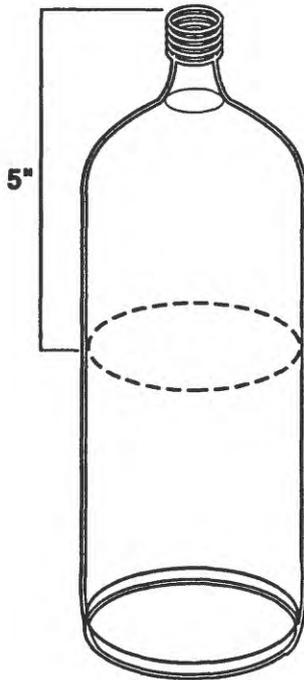
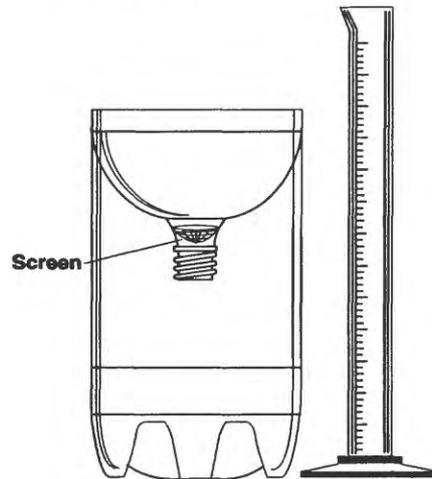

Figure WRP-5. Creating a Spout and Container from a 2-L Soft Drink Container.
Figure WRP-6. Permeability Lesson Plan Activity Setup.
Prior to the visit, cut the spout off of the soft drink containers approximately 5" below top of spout (Figure WRP-5). Insert the spout in the bottom part of the 2-liter soft drink container as shown in Figure WRP-6 on page W-21. Cut 10 pieces of aluminum window screen approximately 3" in diameter. Make 11 copies of the Permeability Data Sheet on page W-24.
3. Place the soft drink bottle spout or funnel in the top of the container as shown in Figure WRP-6 on page W-21.